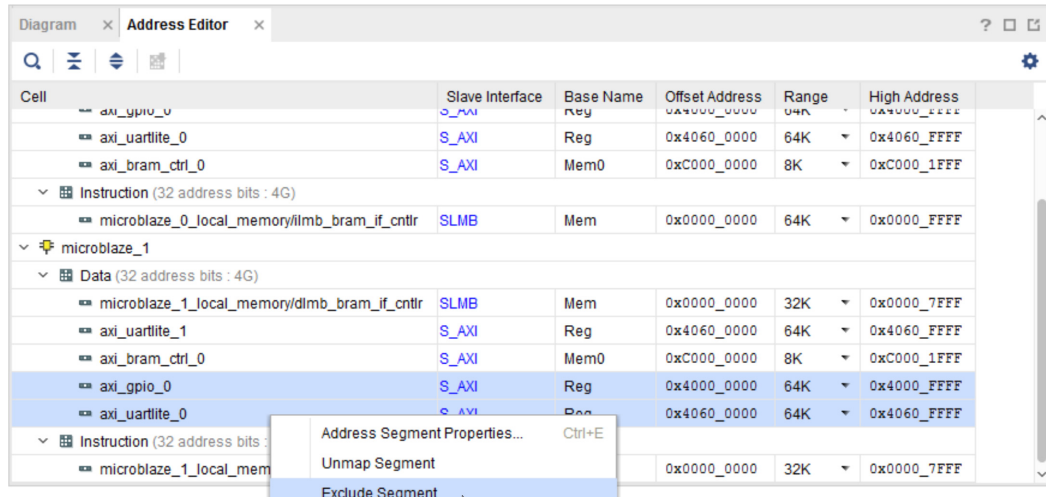

Figure 4-40: Excluding Unwanted Slaves from Memory Map
2. Next, “exclude” the unwanted slaves from the memory map of `microblaze_1` by selecting them in the address editor, right-clicking, and selecting **Exclude Segment**, as shown in Figure 4-40.